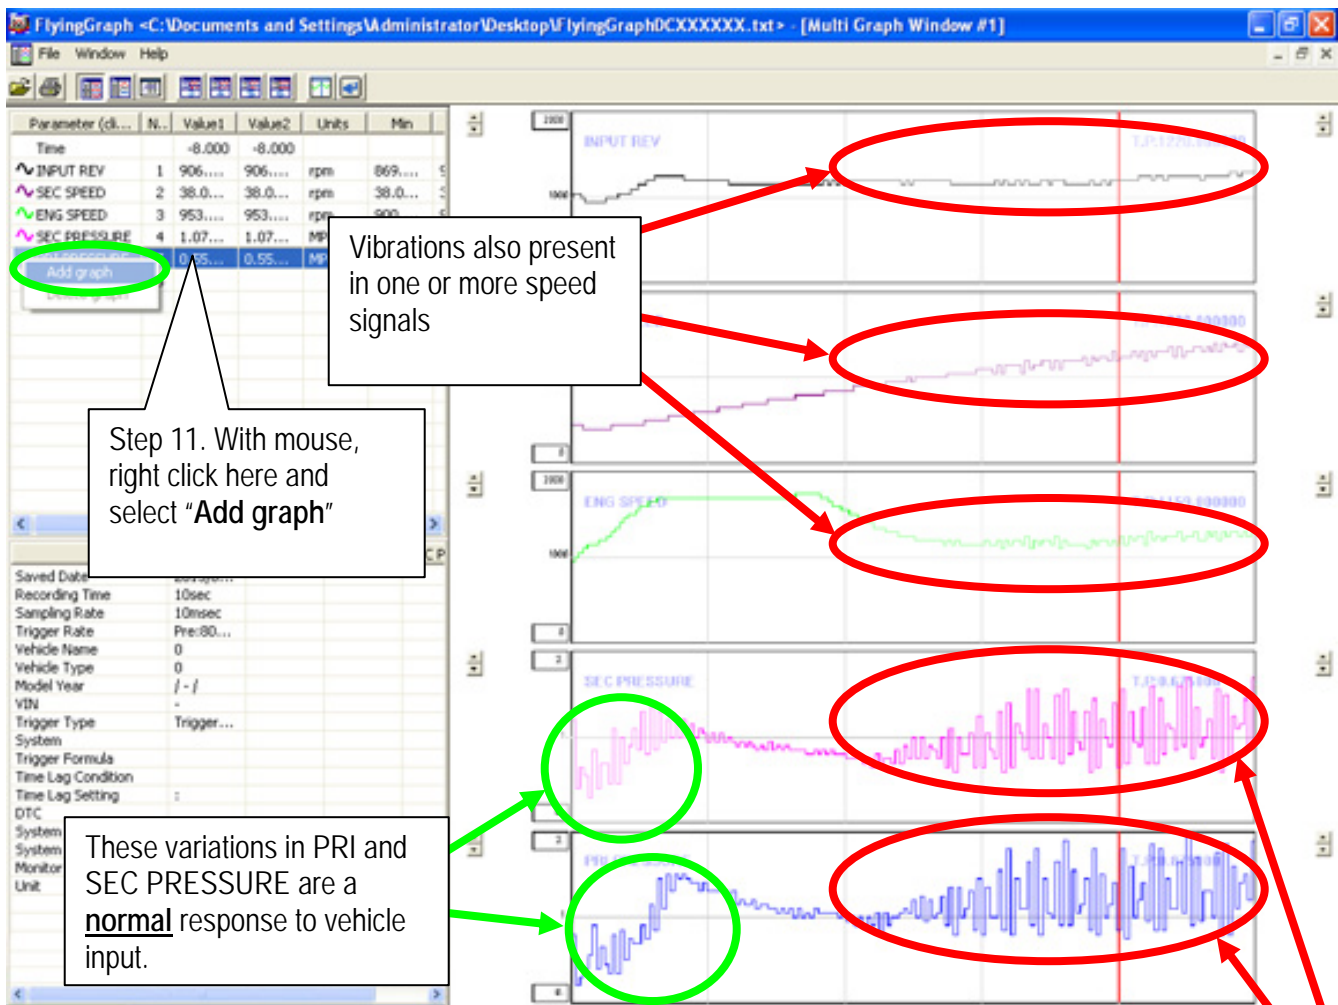

Figure 13
- 11 The Flying Graph will initially display only four (4) data channels. To display the 5th recorded channel, right click to the left of the data channel not visible (see Figure 13) and click on “Add graph” to display the graph.
- Figures 13 and 14 show reference examples of with and without a Pressure Vibration.
13. During data review, if your data shows a Repetitive Pressure Vibration in either **PRI PRESSURE** or **SEC PRESSURE**, and also shows an irregular (non-smooth) line in one or more speed signals (**ENG SPEED**, **INPUT REV**, **SEC SPEED**) as indicated in Figure 13, replace the CVT to resolve (Figure 13 shows Repetitive Pressure Vibrations circled in red).